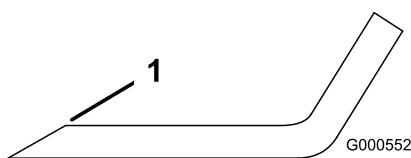

Figure 61
1. Use a file to sharpen the cutting edge at both ends of the blade (Figure 61).
Note: If the blade is not balanced, file some metal off the end of the sail area only (Figure 61).